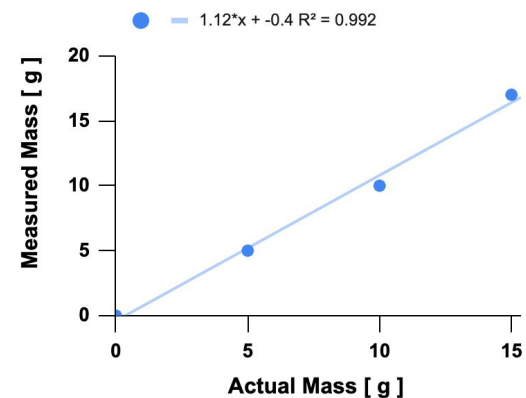

Figure 2. Scale calibration. (A) Full (high) range. (B) Low range.
C. Are the numerical values consistent with what you saw and interpreted from Fig 2 ?